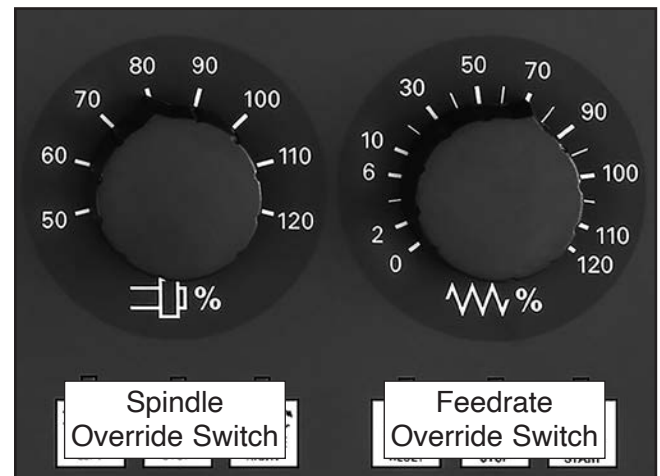

Figure 87. MCP override switches.
2. Turn feedrate override switch on MCP to 100 (see **Figure 87**).